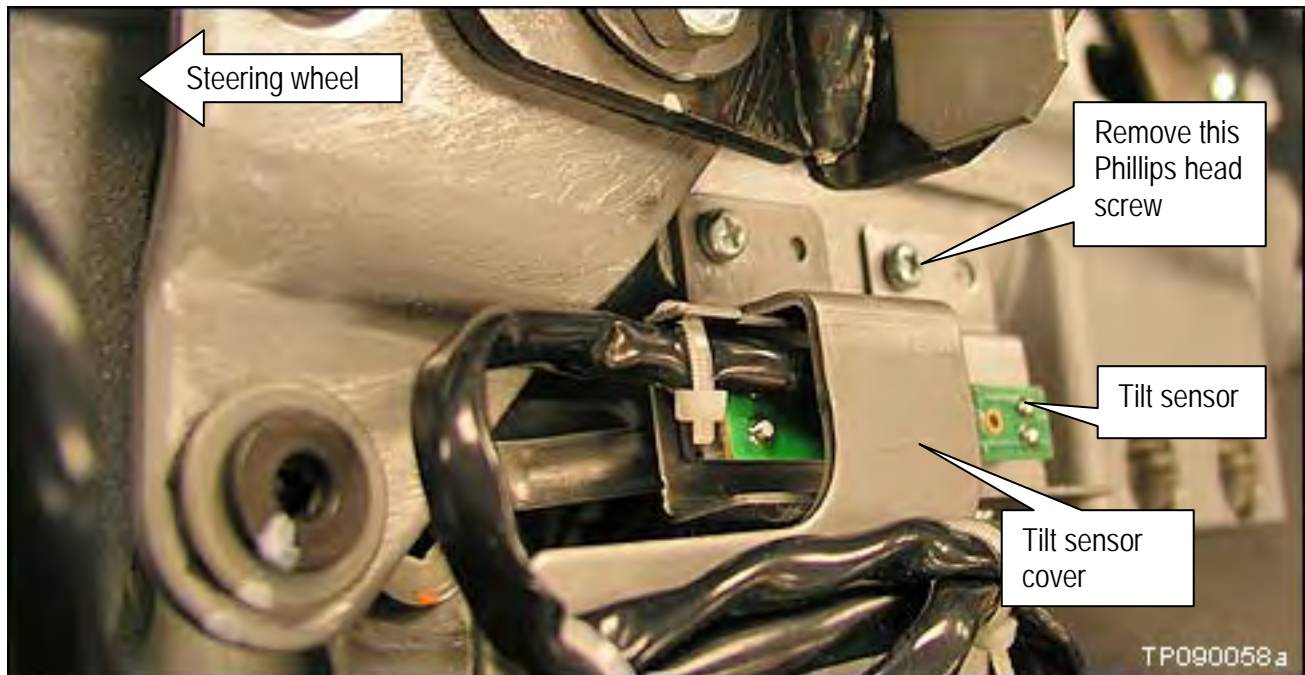

Figure 21
13. Remove Phillips head screw holding the tilt sensor (see Figure 21).